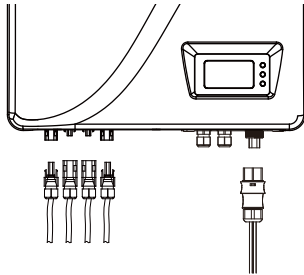
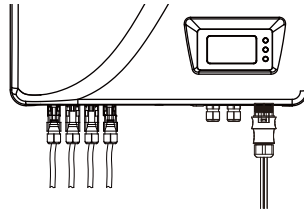

Fig.7-1
Fig.7-2
- 5) Press the right position of the terminal as Fig.7-1, When you hear a "click", then you can pull out the positive and negative DC terminal adaptor as Fig.7-2.